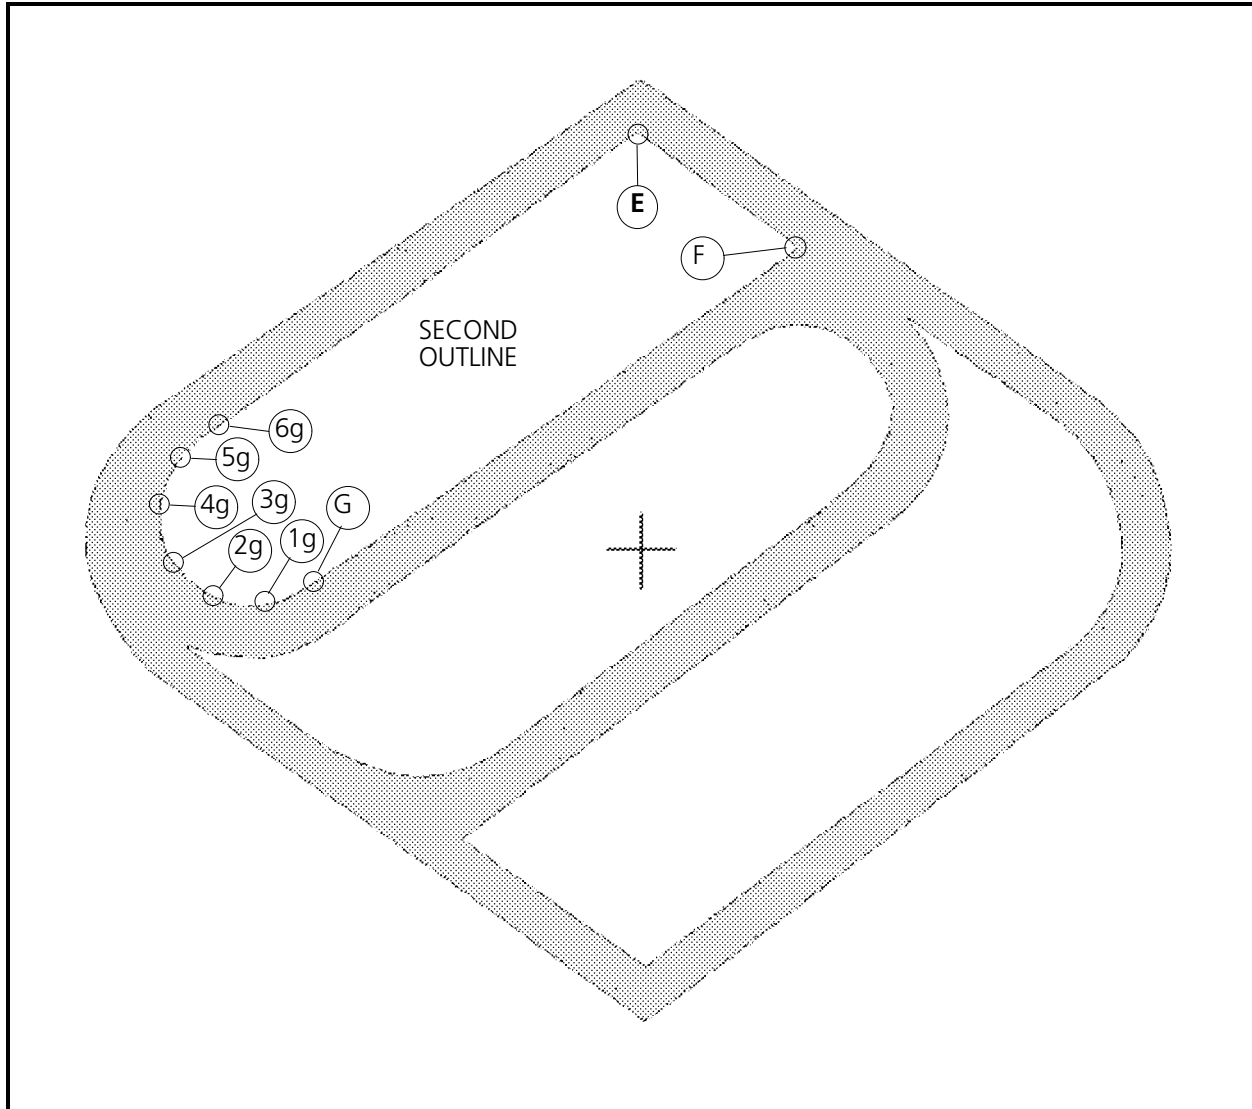

Figure 3-68
1. Enter a Mk1 at point E in as illustrated in Figure 3-68. This is the upper corner point of the top section of the Saurer logo.